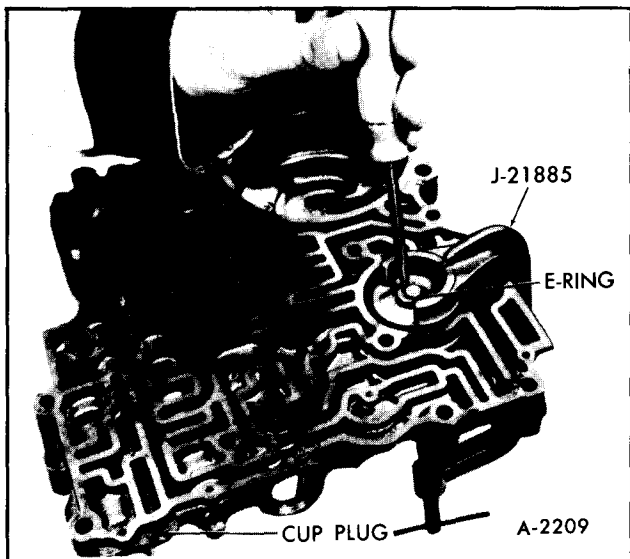

Figure 100—Removing Front Accumulator
5. Install Control Valve Accumulator Piston Installer, J-21885, on accumulator piston, compress piston and remove E-ring retainer, Figure 100.
19. Position front accumulator spring and piston into valve body and install Control Valve Accumulator Piston Installer, J-21885, on piston. Compress spring and piston, aligning spring and piston with bore, Figure 100.